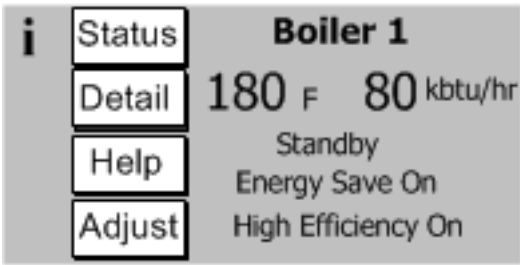
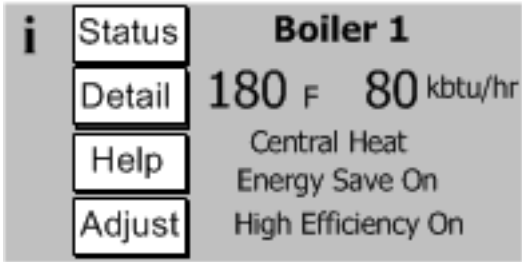

Figure 11.2a: Home Screen at Power-Up (No Call for Heat)
Figure 11.2b: Home Screen on Heat Demand
11. Start the boiler using the lighting instructions on page 104. With the boiler powered up, and with no call for heat, the display should look like Figure 11.2a. Once a call for heat is present, it will look like Figure 11.2b.